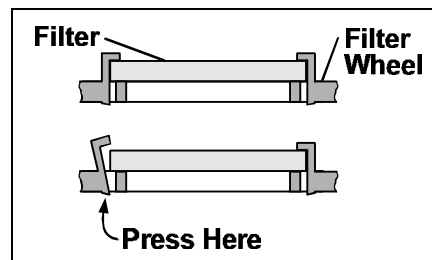

Figure 6-31. Removing a filter from the wheel
5. Press one of the filter retaining tabs to release the filter (Figure 6-31) and lift the filter out of the wheel.